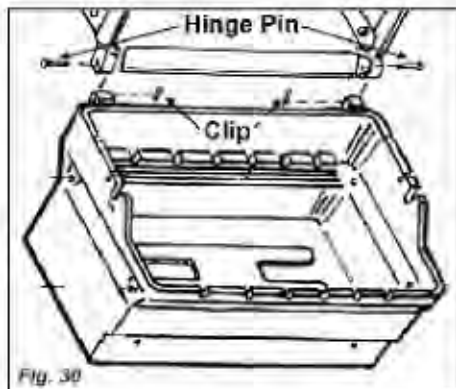

Fig. 30
Step 4: Attaching the Grill Lid (Fig. 30)
(See JNRWNK instructions on page 18, Fig. 30.)